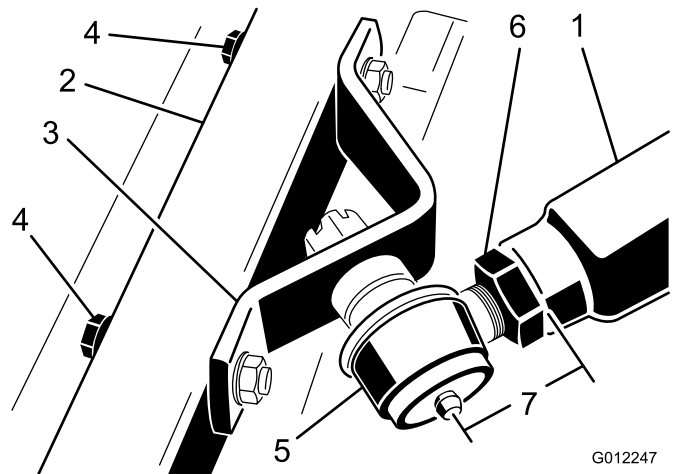

Figure 9
2. Screw the ball joint into the right-hand push arm until the center of the ball joint is 60 mm (2-3/8 inches) away from the front of the push arm (Fig. 9). Do not tighten the jam nut.
6. Tighten the large jam nut securing the ball joint to the push arm (Figure 9). When tightening the jam nut, hold the ball joint straight to permit proper oscillation during raising and lowering of the cutting unit. Carefully remove the wood block holding the push arm down.